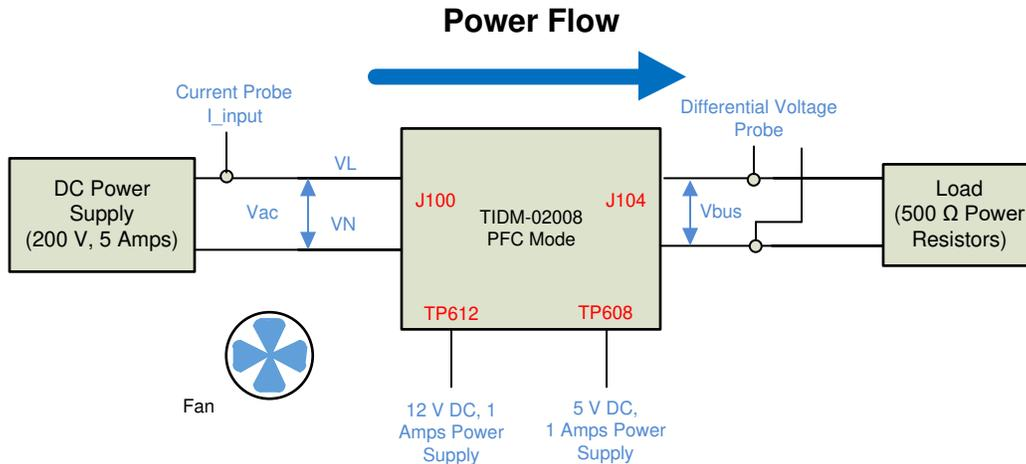

Figure 3-10. HW Setup for Lab 1
Hardware setup is assumed to be similar to what was outline in the previous section. Figure 3-10 recaps the hardware setup for Lab 1 test.
1. Make sure the hardware is setup as outlined in Figure 3-10 . Do not supply any high voltage (HV) power to the board yet.